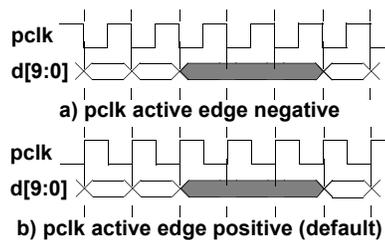

Figure 33. pclk in Free Running Mode
- In free running mode, (the *PixClkMode* bit of DVBUSCONFIG1 register is set to a logic 0), the pixel clock output pin, **pclk**, is always running with a fixed period. Pixel data appearing on the digital video bus **d[9:0]** are synchronized to a specified active edge of the clock as shown in Figure 33.